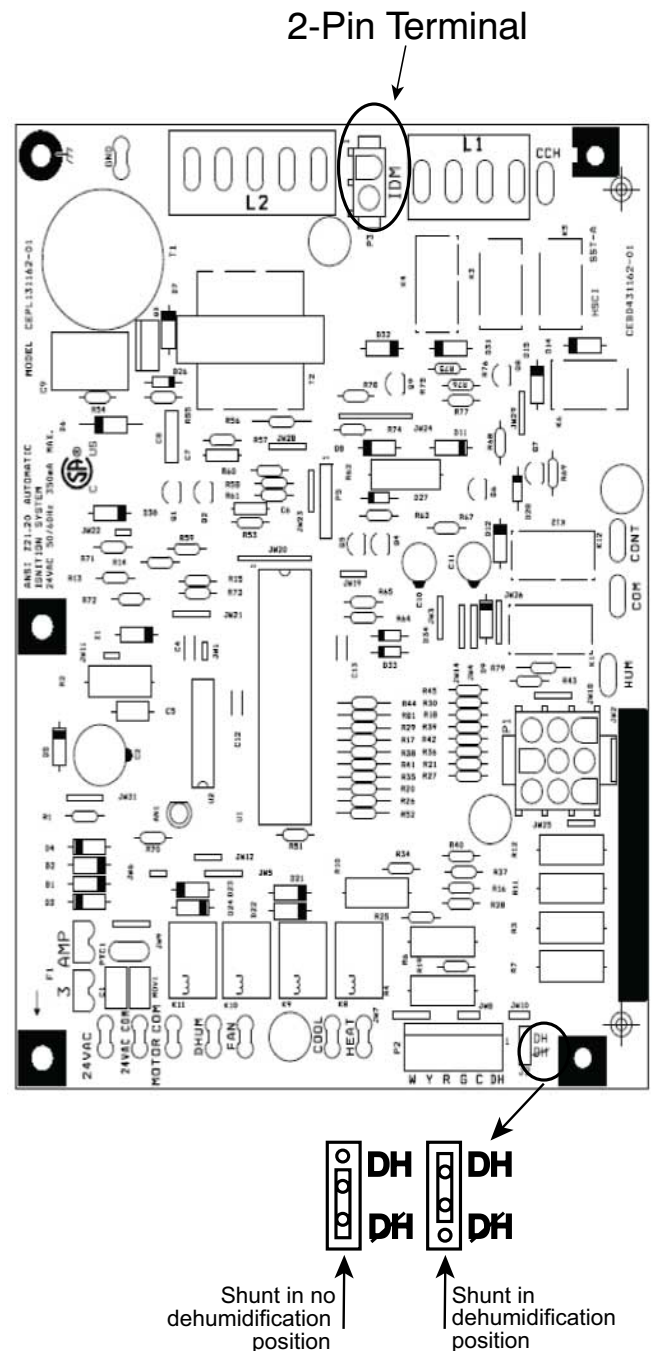

Fig. 19 – Ultra Low NOx IGC Board
This unit is factory-set for use with a single cooling fan speed. For single phase models, the cooling speed is marked "COOL" on the IGC (See Fig. 19). The factory-shipped settings are noted in Table 9. There are up to 3 additional speed tap wires available for use in either gas heating mode, cooling mode, or continuous fan mode (For color coding on the indoor fan motor leads, see Table 7). For single phase models, one of the additional speed tap wires is connected to the continuous fan, with the other 2 wires shipped loose in the control box near the IGC. For three phase models, the additional 3 speed tap wires are shipped loose with vinyl caps and are located in the control box near the interface fan board (IFB) (See Fig. 19).
1. Move shunt jumper on IGC board to “DH” (See Fig. 19).